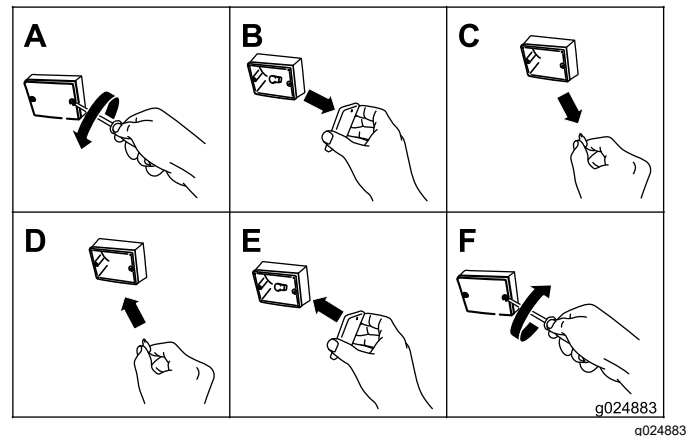

Figure 57
1. Using a screwdriver, remove the 2 screws from the small rectangular, amber lens on the front of the light (Figure 57).
2. Remove the amber lens (Figure 57).
3. Pull the bulb out of the socket (Figure 57).
4. Insert a new 193 bulb into the socket (Figure 57).
5. Install the amber lens and the 2 screws (Figure 57).